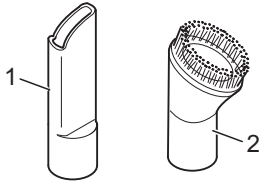

Fig. 6
- **Crevice nozzle (Fig. 6/1)**
- **Furniture brush (Fig. 6/2)**